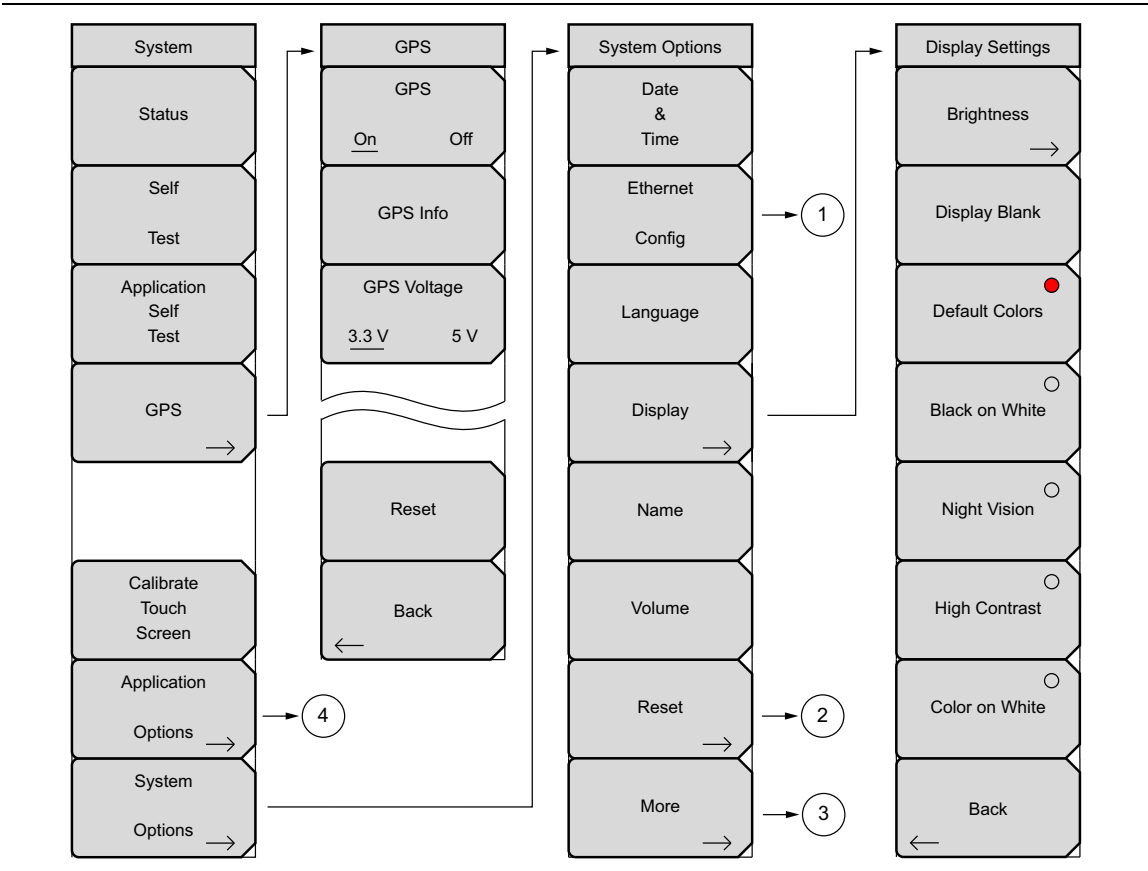
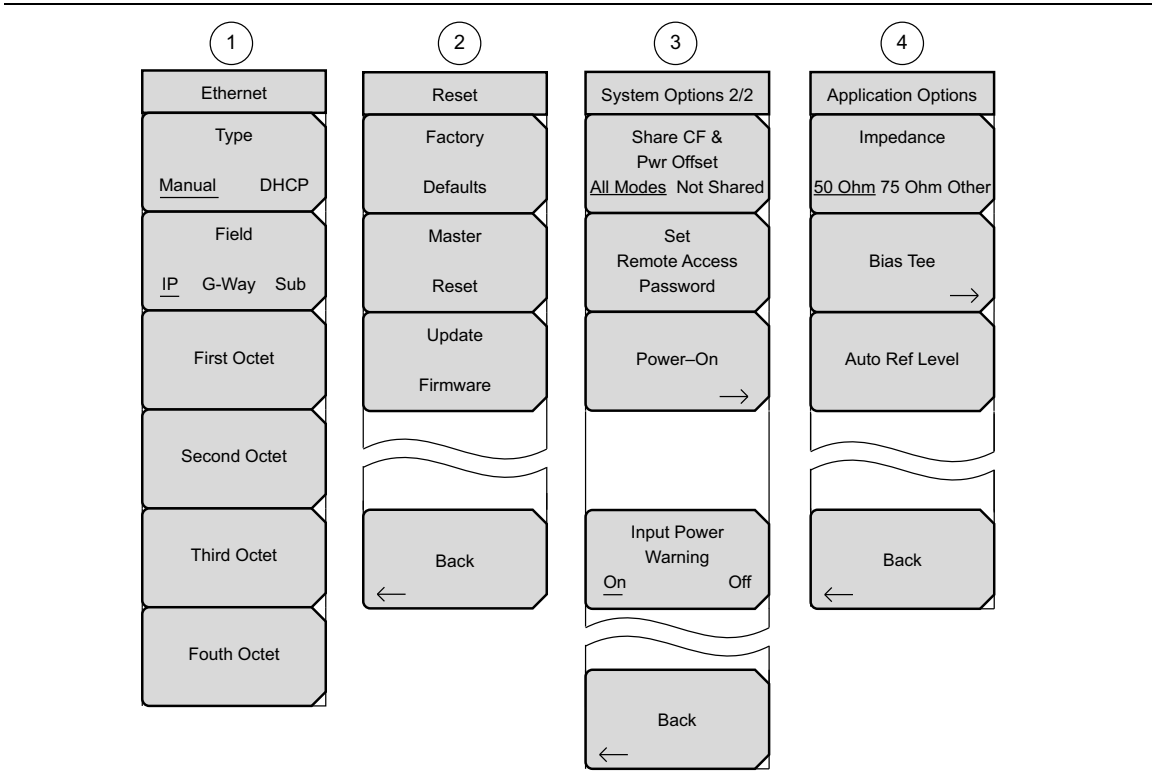

Figure 5-1. System Menu Map – Part 1
Figure 5-2. System Menu Map – Part 2
To access the functions under the System menu, press the **Shift** key, then the **System (8)** key. Figure 5-1 and Figure 5-2 show the menu subgroups that are accessible from the System menu. Menu maps typically display all possible submenu keys, although some keys are displayed on the instruments only under special circumstances (refer to the menu descriptions on the following pages).
Note that the paths indicated by numbered circles are shown in Figure 5-2.